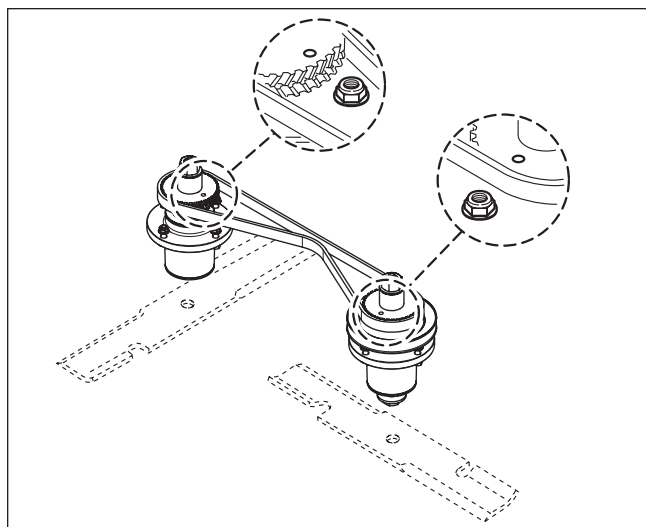

Figure 42. Blade Alignment (36" Models)
8. Refer to Figure 42. Align the holes in the sprockets with the spindle mounting hardware as shown. The blades will be perpendicular to each other.